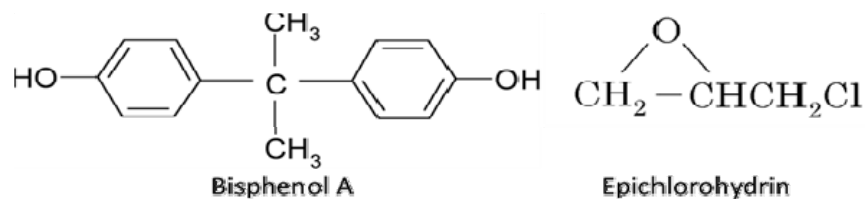

Figure 4: Chemical structures of bisphenol A and epichlorohydrin.
- (5). (a). Epoxy is a cross-linked resin prepared in two steps. The first step involves the reaction between bisphenol A and epichlorohydrin (**Figure 4**) to form a low molecular weight prepolymer. In the second step, this prepolymer is cured into a cross-linked resin with the addition of a hardener such as diethylenetriamine ($\text{H}_2\text{N}-\text{CH}_2-\text{CH}_2-\text{NH}-\text{CH}_2-\text{CH}_2-\text{NH}_2$).